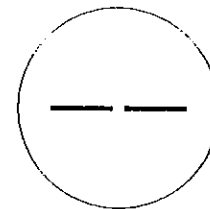

figure 18
- Place the magnet over the GMI Logo on the cover of the Model S216. Remove the magnet when a flashing pair of bars, "- -" (figure 18), appears on the display.